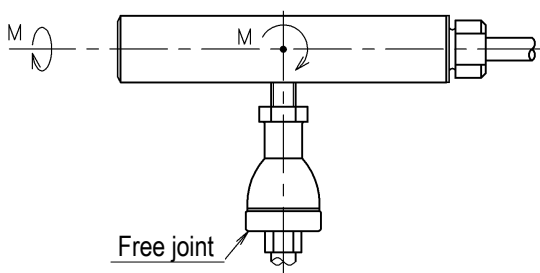

Fig.1
- If such a large momentum as the free joint cannot absorb be given in the manner shown in Fig.1, measuring error will be caused or the transducer may fail in the worst case. Take care avoid this kind of momentum as much as possible.